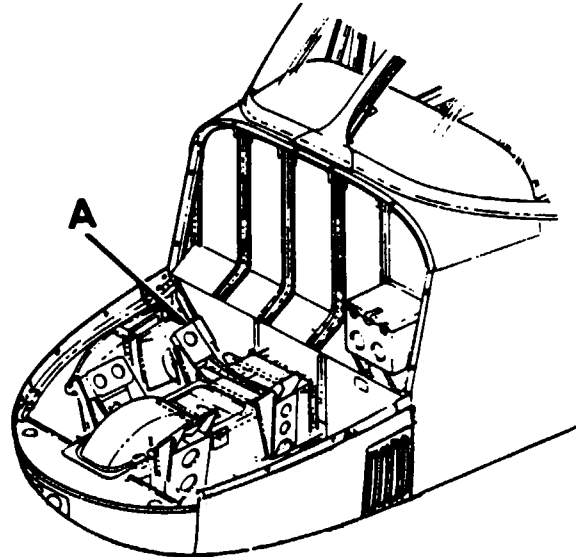

Figure 12-2. Engine Mount Installation
If shock-mounts will be re-used, mark each one so it will be reinstalled in exactly the same position. If new shock-mounts will be installed, position them as illustrated in figure 12-2.
- b. Install engine shock-mounts and ground strap as illustrated in figure 12-2.